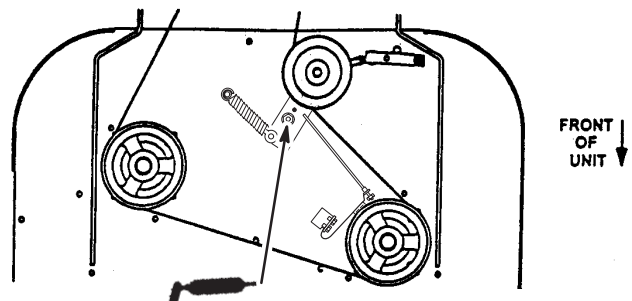

Figure 39
3. Lubricate the blade belt idler arm pivot. (Fig. 39). Lubricate every 50 hours.